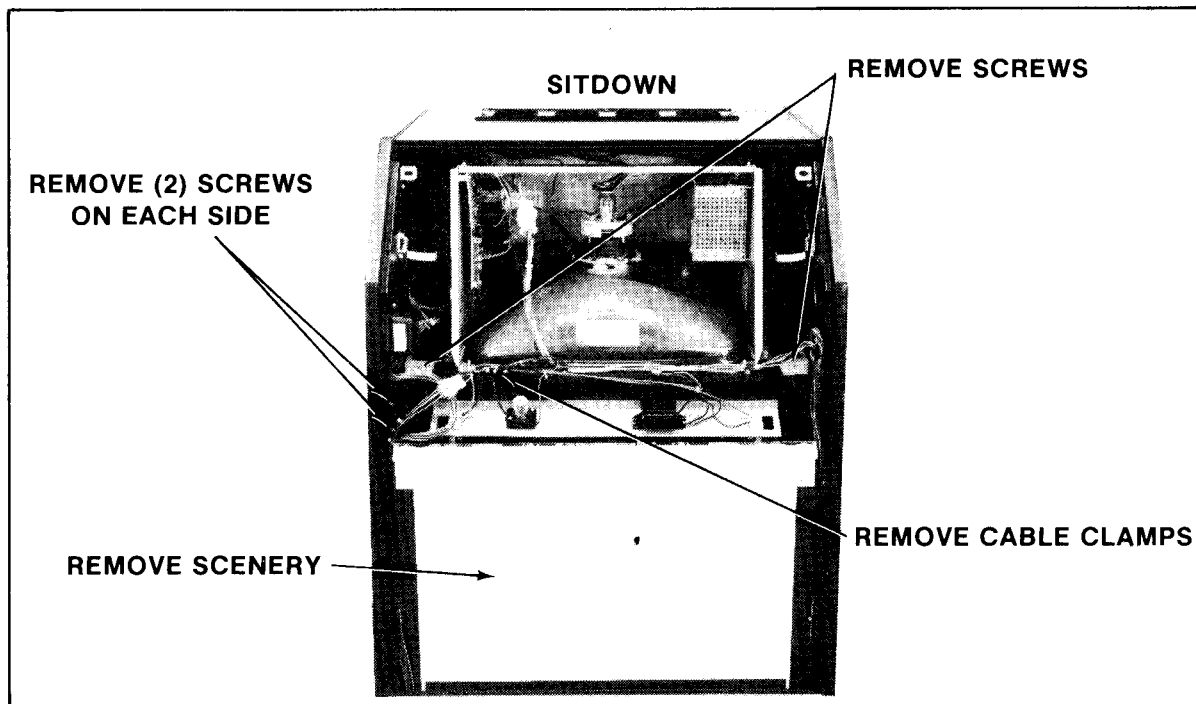

FIGURE 30
4. Sit Down model — See Figure 30.
- g. Remove the cable clamps at the front edge of the monitor mounting board. See Figure 30.